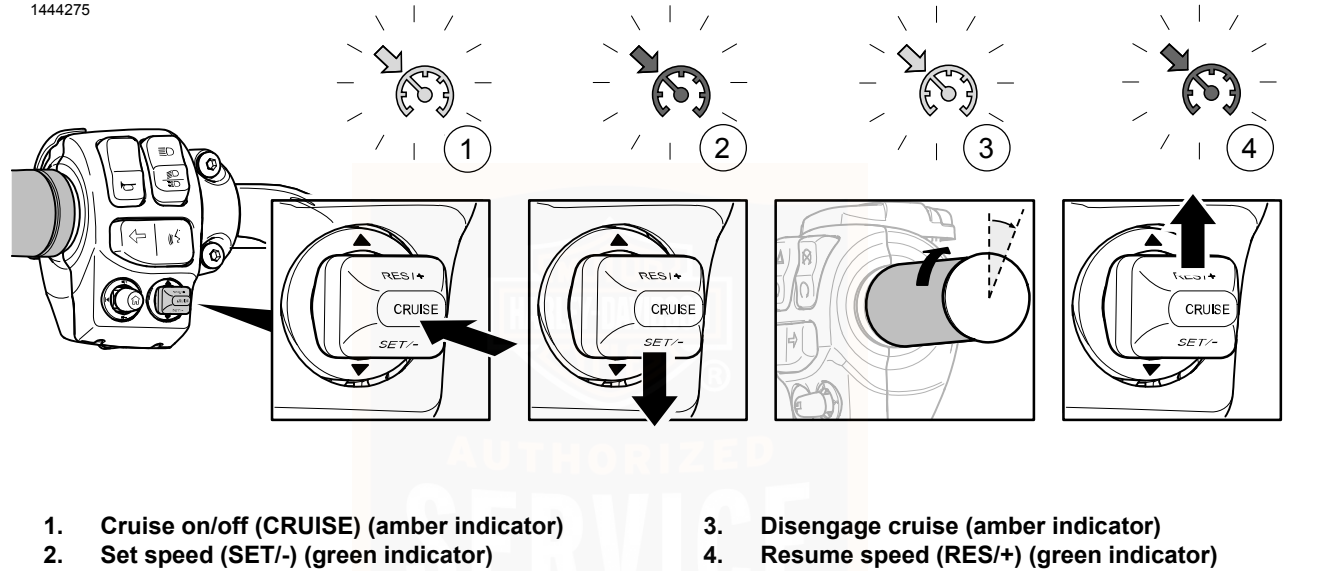

Figure 36. Cruise Control (typical)
See Figure 36. Press the CRUISE switch to turn on cruise (1). When on, the cruise icon in the speedometer face glows amber.
See Figure 36. When the motorcycle reaches your intended speed, press the SET/- switch down to set the cruise speed (2). The amber cruise icon changes to green.
See Figure 36. To drop out of cruise speed, roll the throttle closed through the roll-off switch (3).
See Figure 36. If cruise has been disengaged yet the cruise indicator is amber, pressing the RES/+ switch up resumes cruise (4). The icon glows green. The motorcycle automatically resumes cruise at the set speed.
See Figure 36. On models equipped with the auxiliary/fog lamps, the switch is on the left side of the fairing cap.